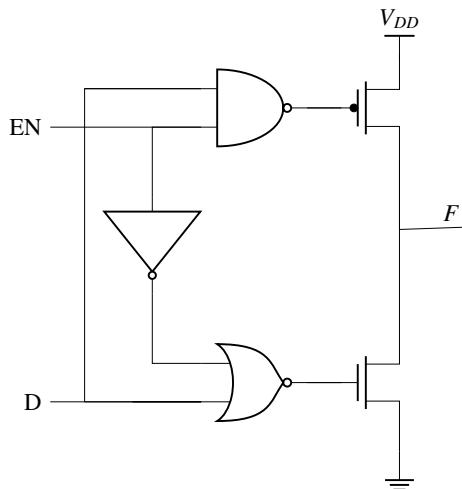

Fig. 3.11: Circuit Diagram
25. In the circuit shown in Fig. 3.11, what are the values of F for $EN = 0$ and $EN = 1$, respectively?